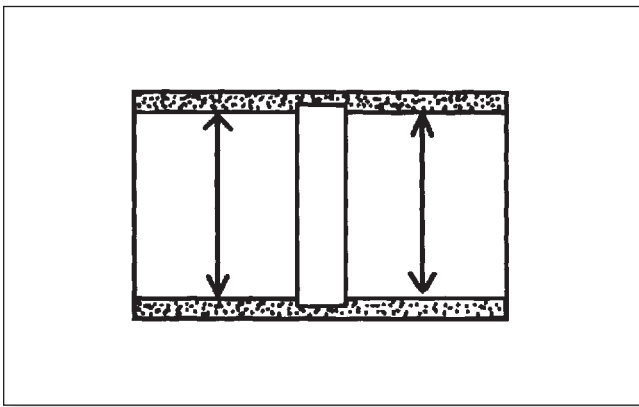

Figure 13
1. With an inside micrometer, measure the inside diameter of the main bearing at the eight (8) points shown in Figures 13 and 14.